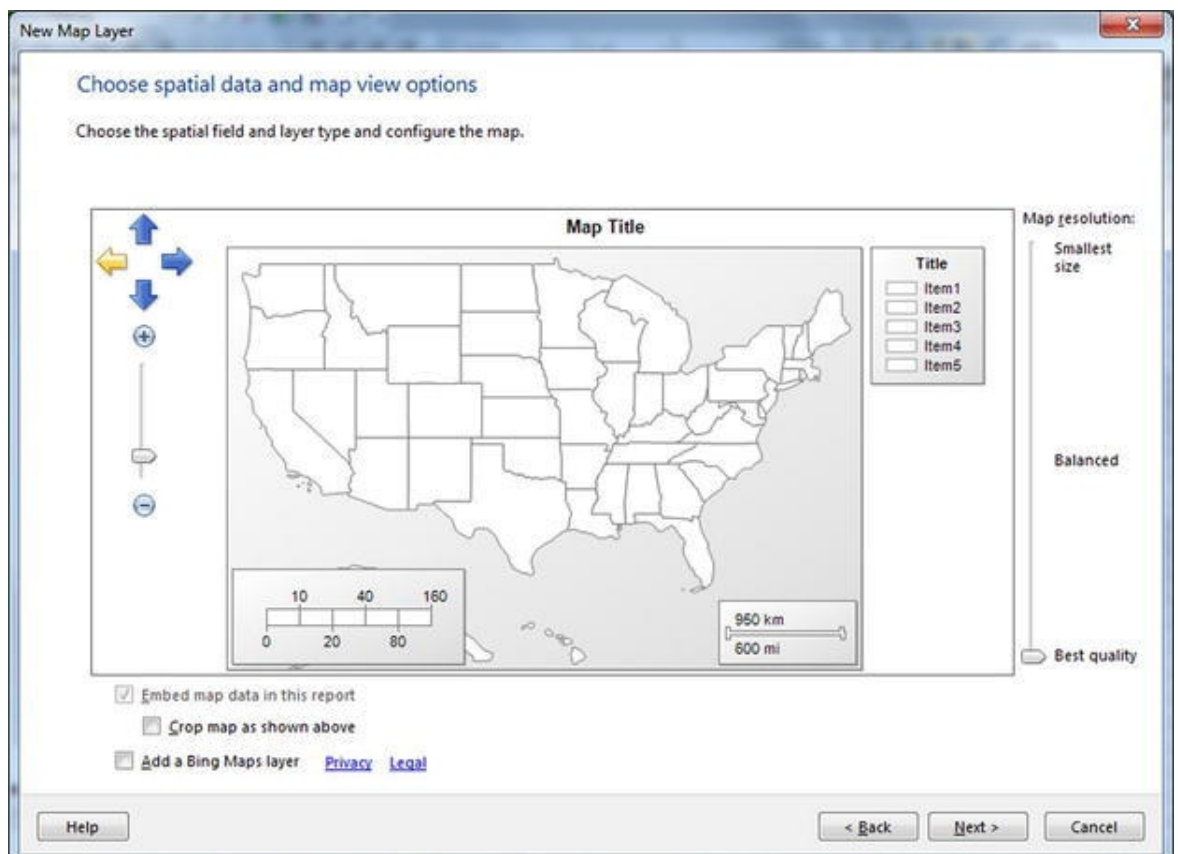

Figure 5-4. *The Choose spatial data and map view options pane*
8. Adjust the size and placement of the map using the arrows and the plus and minus buttons on the left of the dialog (or using the mouse if you wish). The dialog will look like **Figure 5-4**.